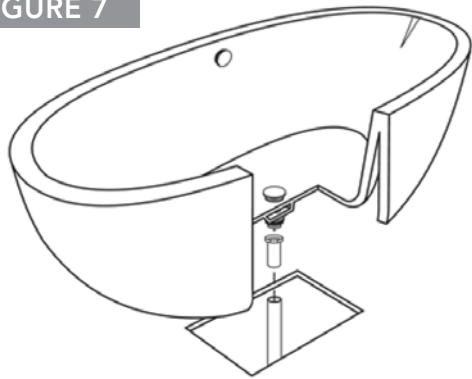

FIGURE 8
- 16 Then apply a bead of tub and tile caulk or silicone around the edge of the base (Figure 8).